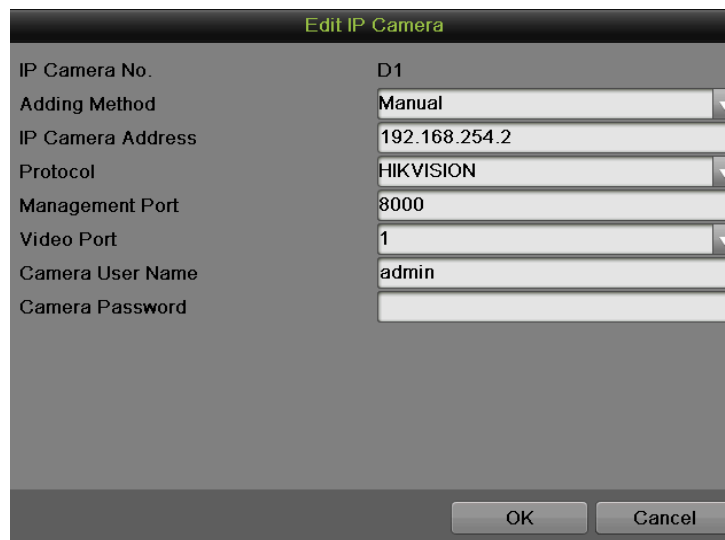

Figure 157 Edit IP Camera
1. Click  in the added camera list to pop up an Edit IP Camera menu, as shown in **Figure 157**.